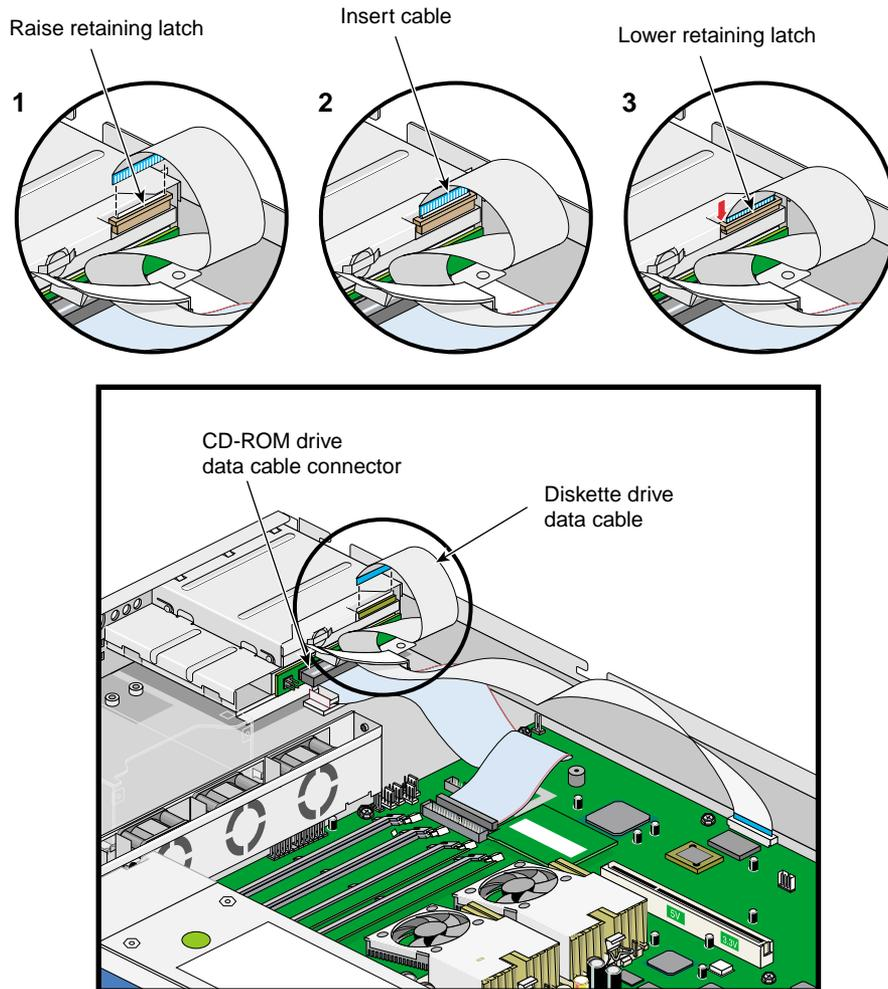

Figure 2-29 Connecting the Drive Module Signal Cables
2. Tighten the two screws to secure the drive module to the chassis as shown in Figure 2-29.
3. Connect the CD-ROM drive signal cable to the CD-ROM drive connector as shown in Figure 2-29.
- Push the retaining latch in on both sides of the connector, using a small flat-head screwdriver. See Figure 2-29 for an illustration of the procedure.